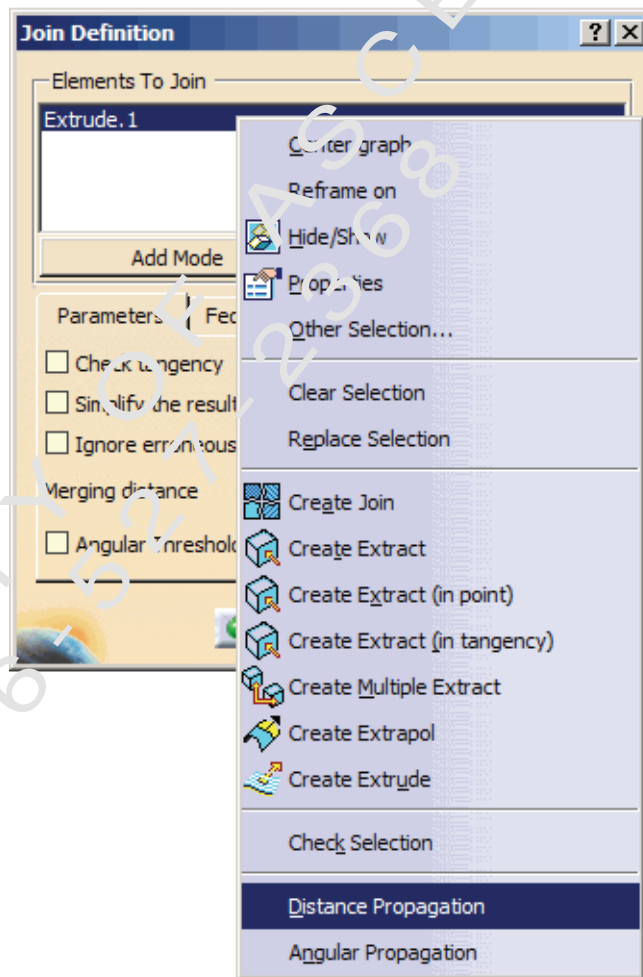

Figure 1–48
5. Right-click in the *Elements to Join* field and select **Distance Propagation**, as shown in Figure 1–48.